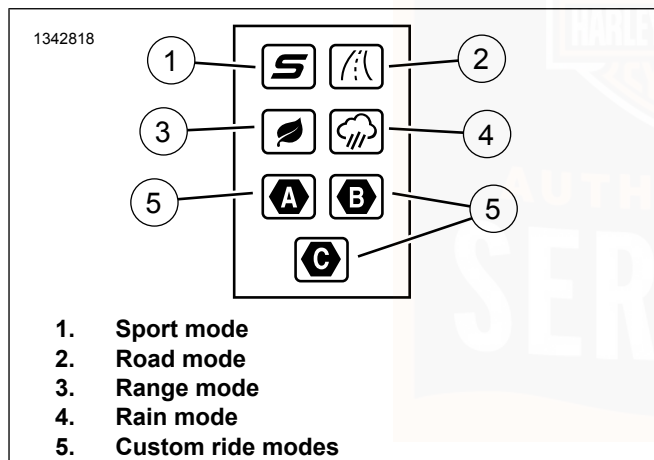

Figure 34. Ride Mode Widget
See Figure 34. The ride mode widget displays the seven available ride mode icons, four pre-set (1,2,3,4) and three custom (5). Current selectable ride modes will be shown in color, disabled ride mode icons are gray and the active ride mode will be highlighted.